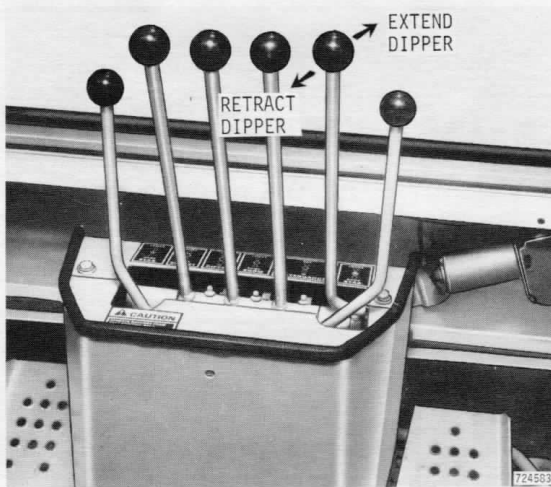

Figure 35 - Extendahoe control lever
- 2 With the engine running at normal speed for backhoe operation, push or pull the control lever shown in Figure 35 until the dipper reaches the desired length.